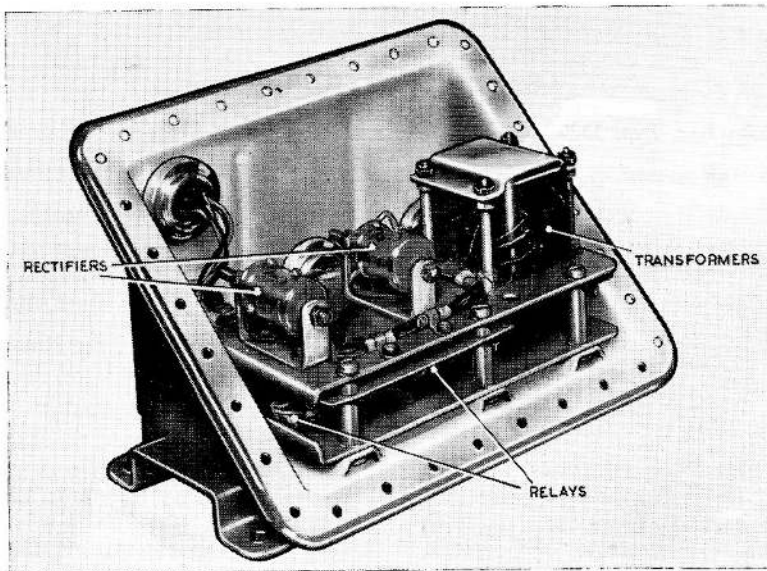
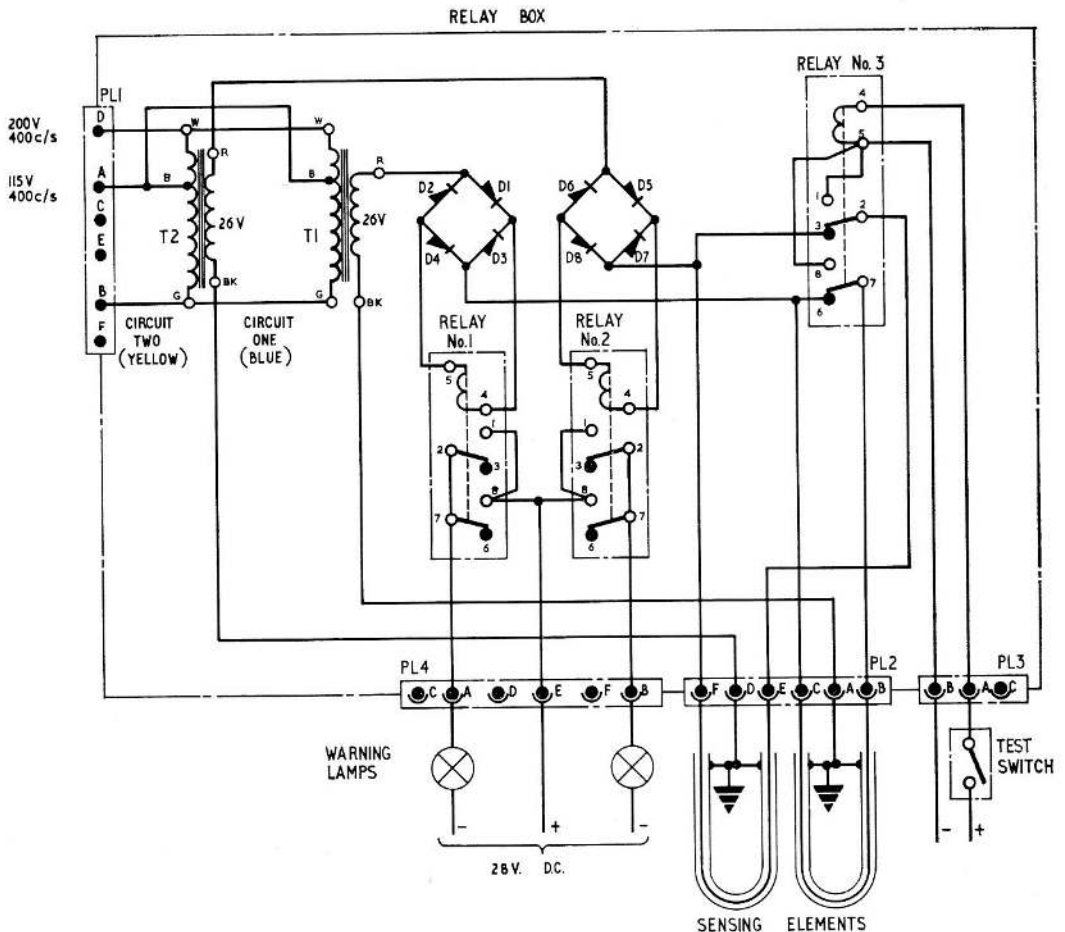

Fig. 2. Contents of relay box
Fig. 3. Circuit diagram
3. The components of the relay box shown in fig. 2, are mounted on a light alloy chassis which is screwed to the base of the box. These components form two complete and separate single-way circuits, each circuit comprised of a transformer, a full-wave rectifier and a warning relay as shown in the circuit diagram in fig. 3. A double-pole changeover relay serves as a test relay for both units, no provision is made to test each circuit individually.
5. From the circuit diagram shown in fig. 3, it will be seen that the two transformer pri-